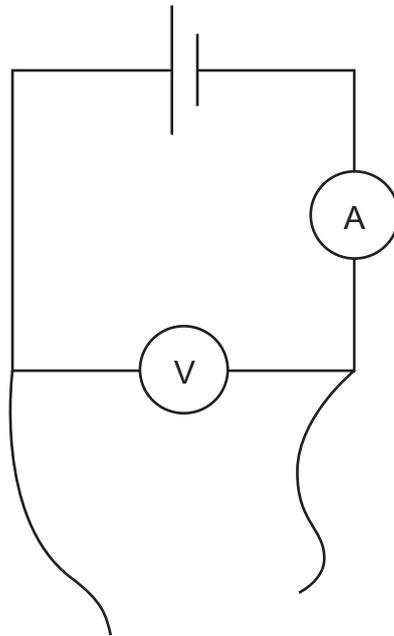

Fig. 4.1
- (a) You are also provided with a pre-connected open circuit containing a power supply, an ammeter, a voltmeter and connecting leads as shown in **Fig. 4.1**. To complete the circuit, one lead should be connected to O and the other lead connected to A, B and C in turn.